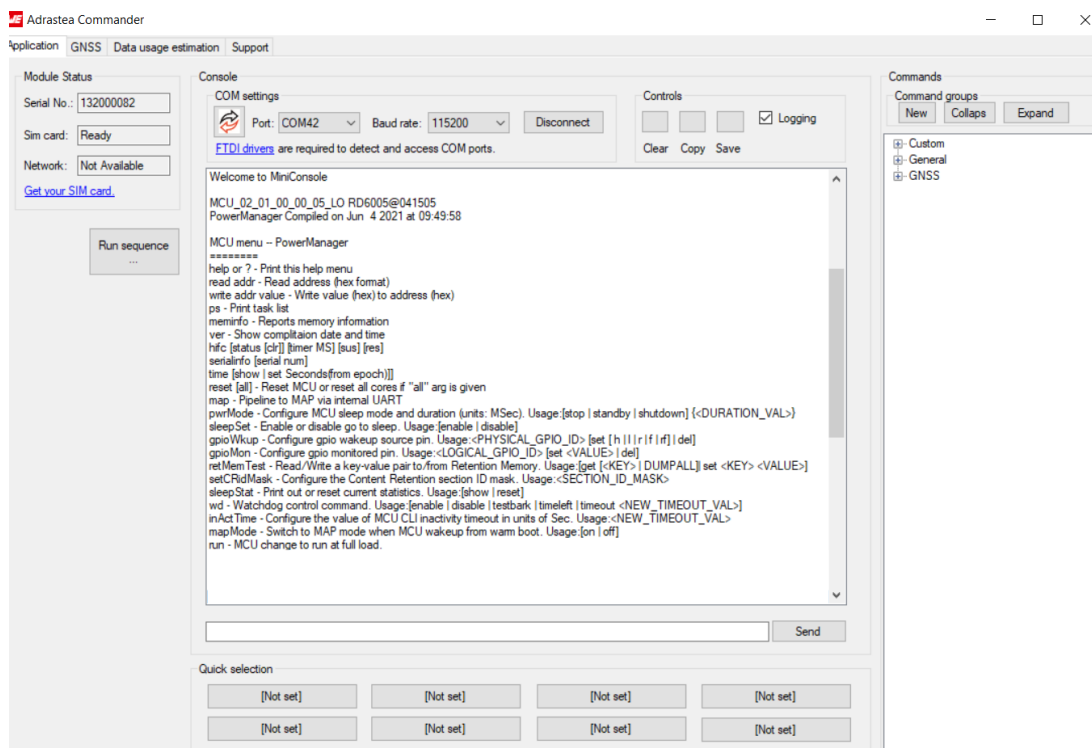

Figure 3: MiniConsole start view- Adrastea command
- Step 7: Press the reset button to ensure a clean start-up of the module. See figure 3.